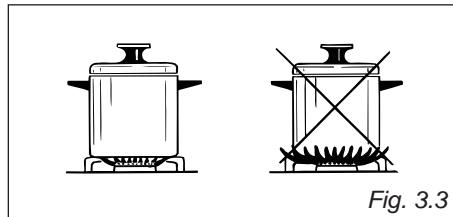

Fig. 3.3
- Unscrew cable clamp "D" (fig. 3.3).